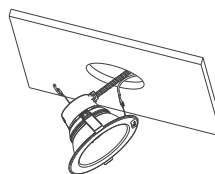

Figure 4-3
4. Plug in the quick connector and follow the regular fixture installation instructions to complete the installation (Figure 4-3).